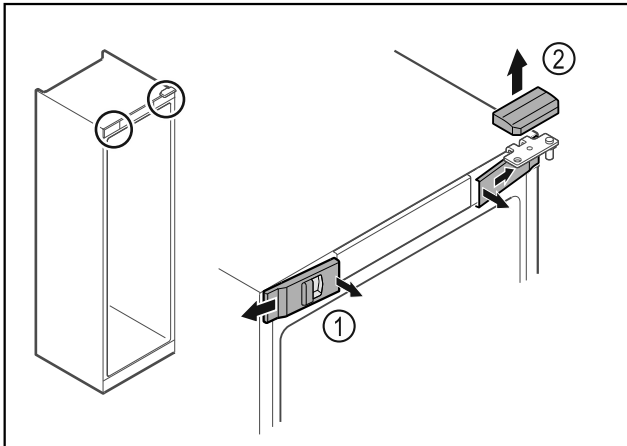

Fig. 5
► Unlatch the front covers Fig. 5 (1) on the inside and remove them sideways.
► Lift off the upper cover Fig. 5 (2).